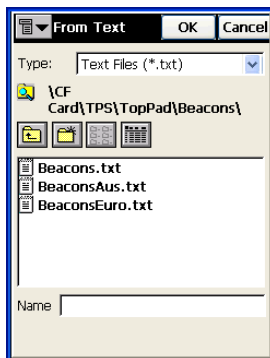

Figure 2-20. Select File Type and File
3. On the *From Text/LandXML* screen (Figure 2-20), navigate to and select the file from which to import points. Press **OK**.